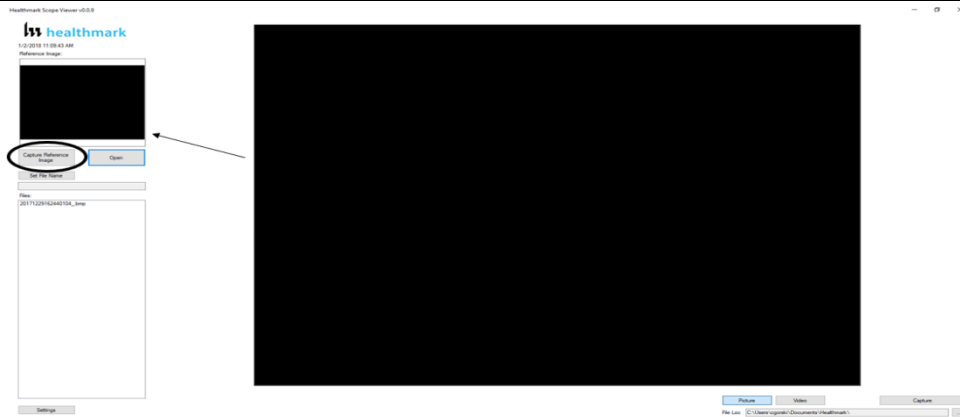

Figure 11
1. To display an image currently being displayed in the Main Image Window, click 'Capture Reference Image' button. **NOTE:** The images will be saved in a file folder titled "Reference Images" in the designated File Loc. **Fig. 11**